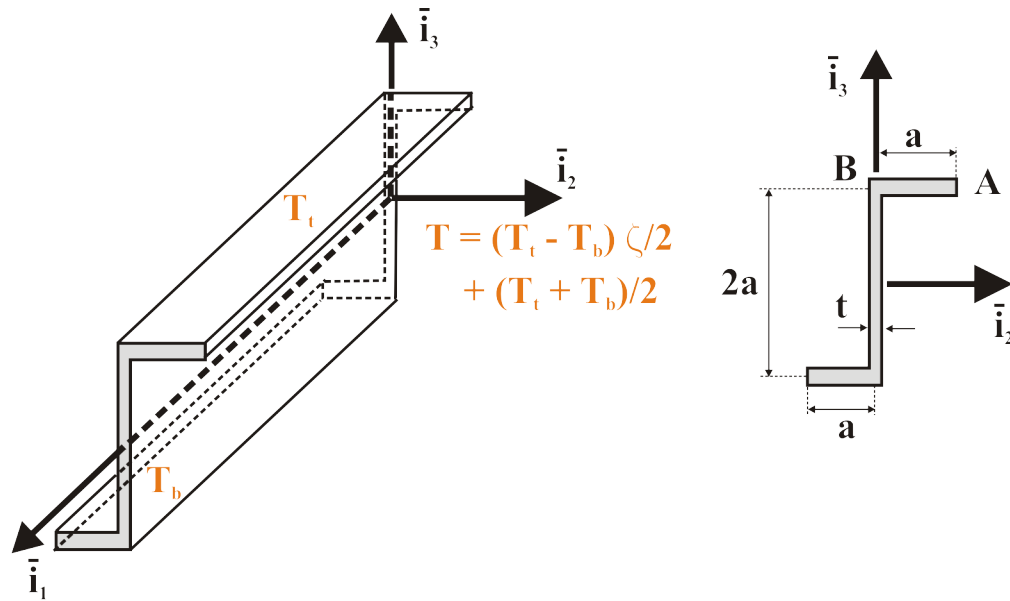

Figure 7: Cantilevered beam subjected to thermal gradient.
Consider now the problem of a cantilevered beam with a “Z” section as treated in example 6.9.1. Figure 7 shows the cantilevered beam subjected to the following temperature field: the top and bottom flanges are at temperatures T_t and T_b , respectively, whereas the temperature profile in the vertical web is $T = (T_t - T_b)\zeta/2 + (T_t + T_b)/2$, where $\zeta = x_3/a$. (3) Find the tip deflections of the beam. (4) Determine and plot the axial stress distribution over the cross-section of the beam. Use the following data: $T_t = \lambda T_b$, $\lambda = 3$.